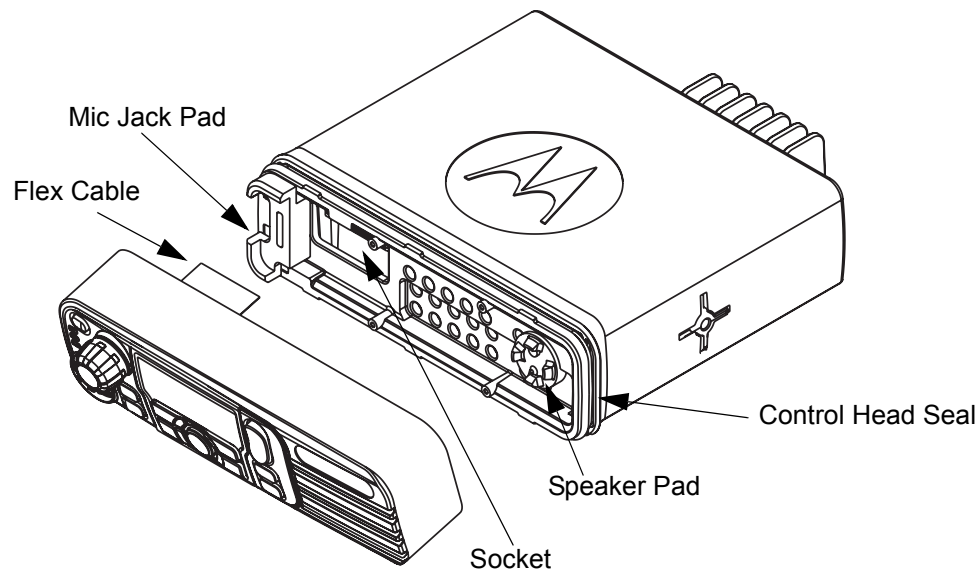

Figure 5-2 Flexible Connection Removal
3. Pull the control head away from the radio assembly as shown in Figure 5-2.
4. Remove the flex cable from the socket on the radio assembly as shown in Figure 5-2.